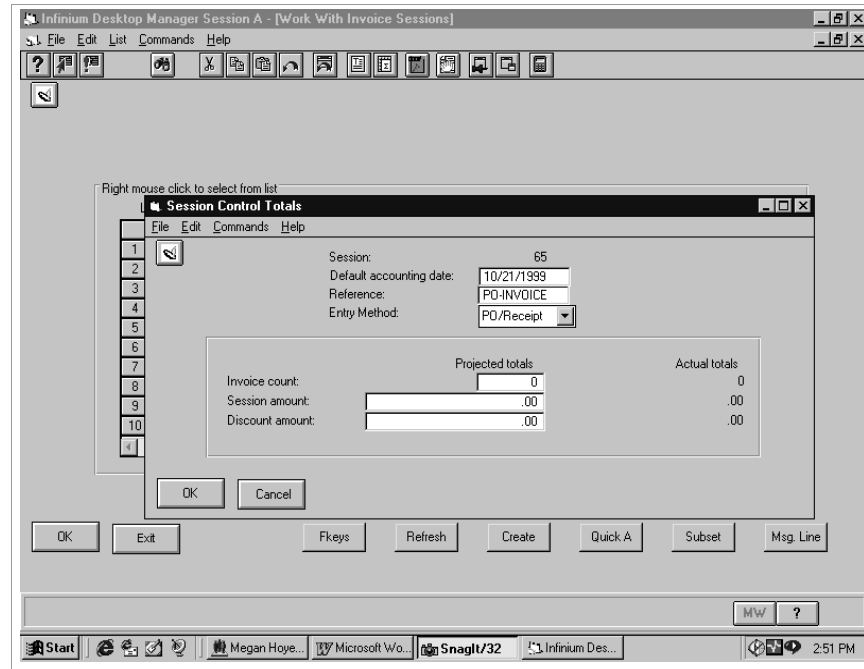

Figure 5-3: Session Control Totals Window
- 3 To create a new invoice session, press F6. The system displays the window shown in Figure 5-3.